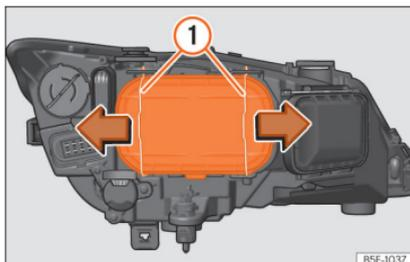

Fig. 106 Dipped beam headlights.
- Move the loops »» Fig. 106 ① in the direction of the arrow and remove the cover.